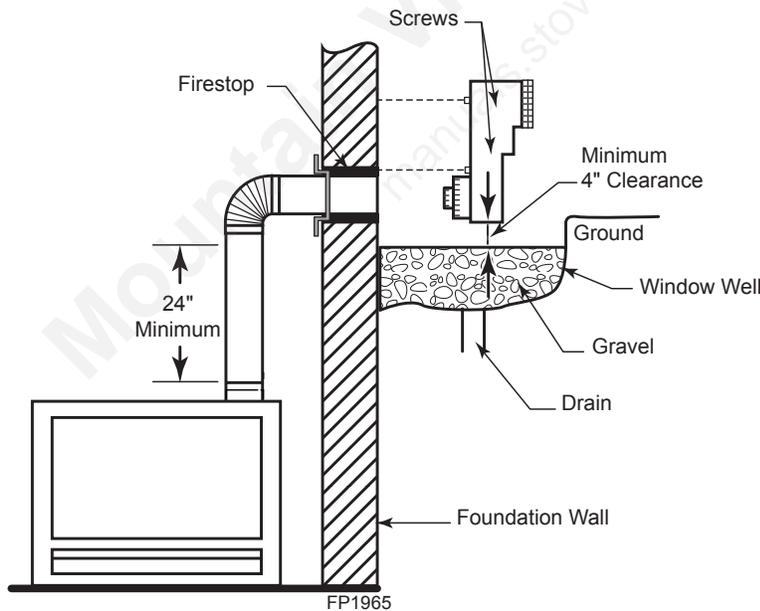

Figure 29 - Below Grade Installation
2. Remove soil to a depth of approximately 16" below base of snorkel. Install drain pipe. Install window well (not supplied). Refill hole with 12" of coarse gravel leaving a clearance of approximately 4" below snorkel. *Figure 29*
6. Level the soil so as to maintain a 4" clearance below snorkel. *Figure 29*
If the foundation is recessed, use recess brackets (not supplied) for securing lower portion of the snorkel. Fasten brackets to wall first, then secure to snorkel with self drilling #8 x 1/2" sheet metal screws. It will be necessary to extend vent pipes out as far as the protruding wall face. *Figure 29*
- Vertical installations up to 40' (12 m) in height. Up to a 10' (3 m) horizontal vent run can be installed within the vent system using a maximum of two 90° elbows. *Figure 29*